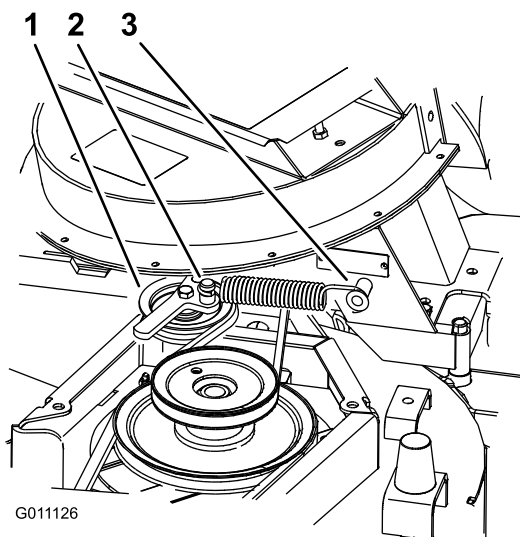

Figure 36
6. Install the spring as shown in Figure 36.